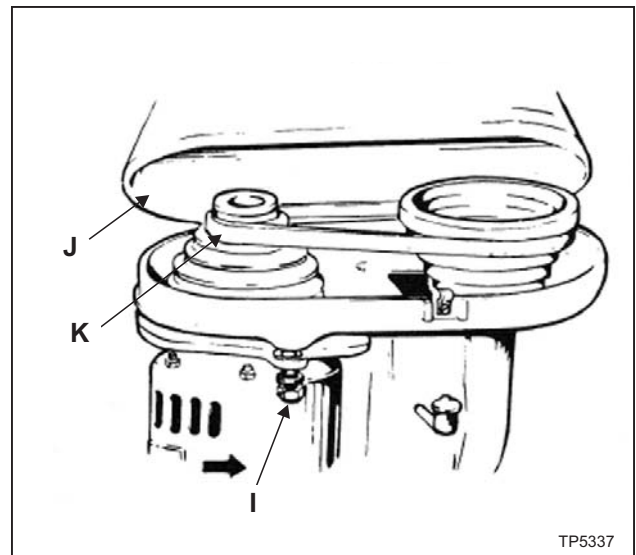

Figure 3.18 - E-Head Speed Adjustment
1. To change speed, loosen the two hex nuts "I", Figure 3.18, and move motor forward.